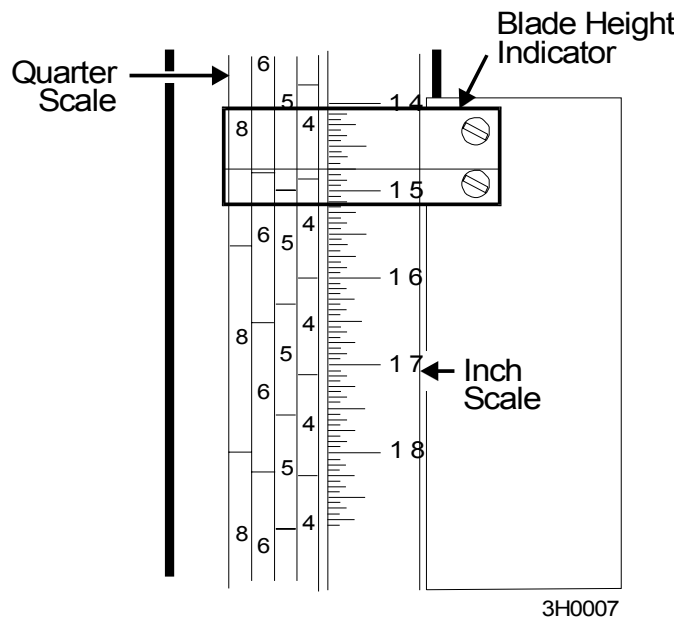

FIG. 7-15
**See Figure 7-15.** Loosen the indicator bracket mounting bolts and adjust the bracket until the indicator is aligned with the correct mark on the scale. Retighten the bracket mounting nuts.